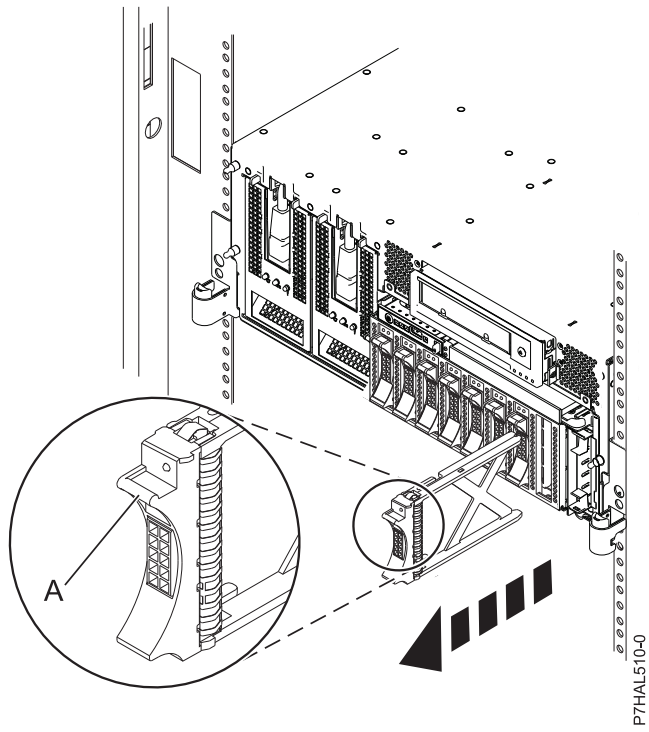
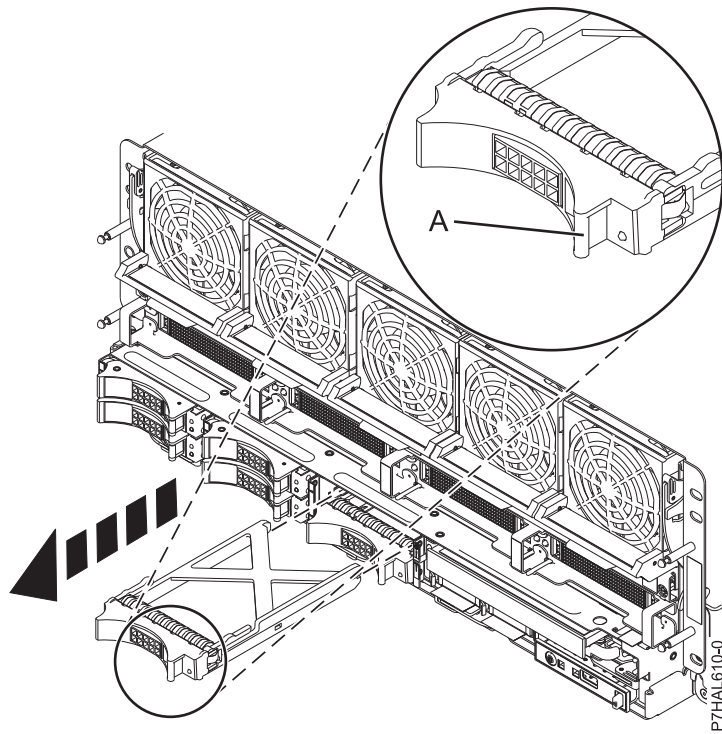

Figure 104. Removing a disk-drive filler from model 8233-E8B or 8236-E8C
Figure 105. Removing a disk-drive filler from model 9117-MMB or 9179-MHB
4. Pull the disk-drive filler from the slot. Pull the disk-drive filler from the slot that you want to use, as shown in Figure 104 on page 122 and Figure 105 on page 122.